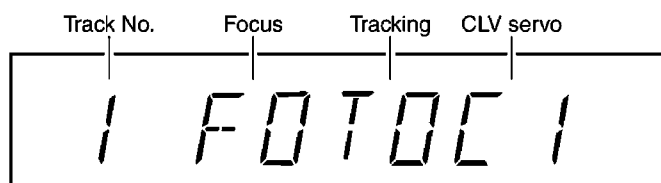

Fig. 6-2.
5. Servo adjustment results are displayed. Refer to Fig. 6-2. For further information about servo adjustment results, refer to Fig. 6-3.